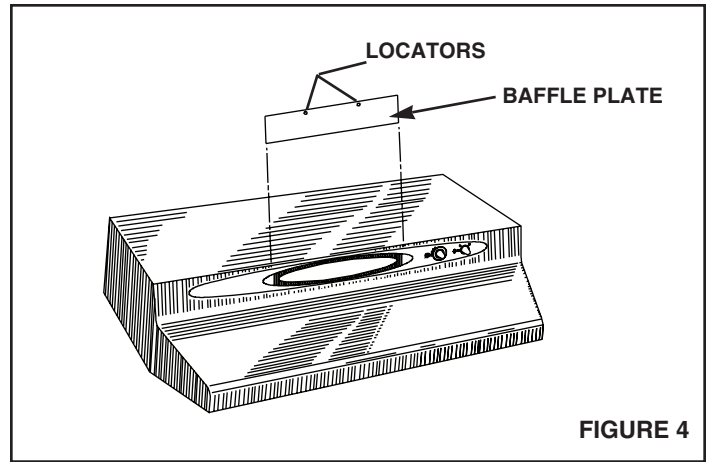

FIGURE 4
**If the range hood is to be installed as a ducted unit**, a baffle plate is provided to close off the non-ducted vent. Install baffle plate (**Refer to FIGURE 4**) by sliding into place behind grille. Use locator bumps to orient in grille.